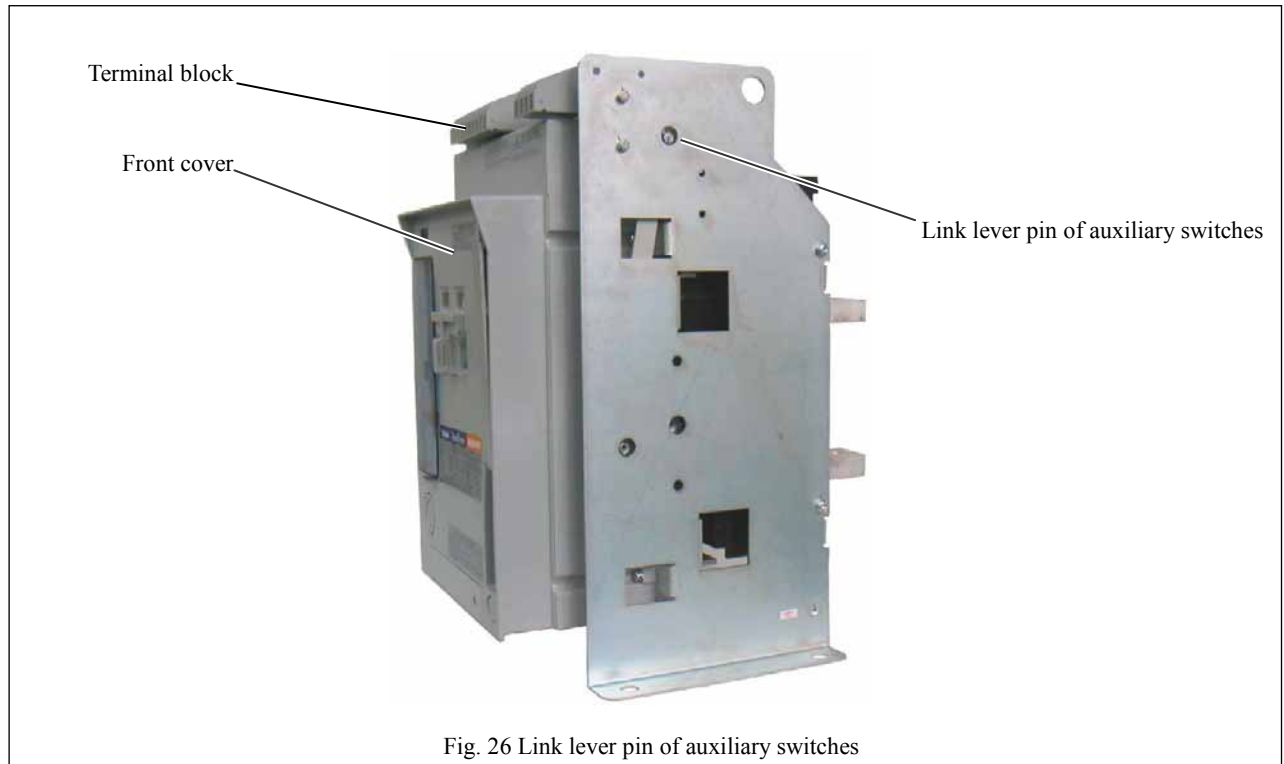

Fig. 26 Link lever pin of auxiliary switches
(5) Reinstall each part or component in reverse order of removal after inspection. When installing the UVT, make sure the nameplate on the UVT can be viewed from the front of the ACB. and make sure the link lever pin of auxiliary switches is position specified in Fig.26.